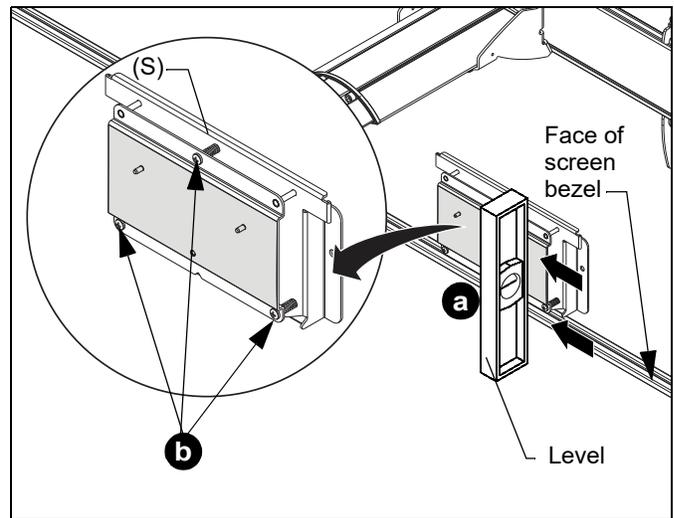

Figure 45
- Hold small level against face of sensor mount assembly (S) and screen. (See Figure 45)
- Adjust three screws on face of sensor mount assembly, as necessary, to ensure that the face of the sensor mount assembly is flush with the front of the screen bezel. (See Figure 45)